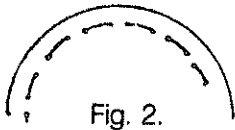

Fig. 2.
2. Lay out the cover on the ground. Thread the cable through the grommets (or loops). The cable must remain on the outside of the cover, except between the pairs of grommets (Figure 2).